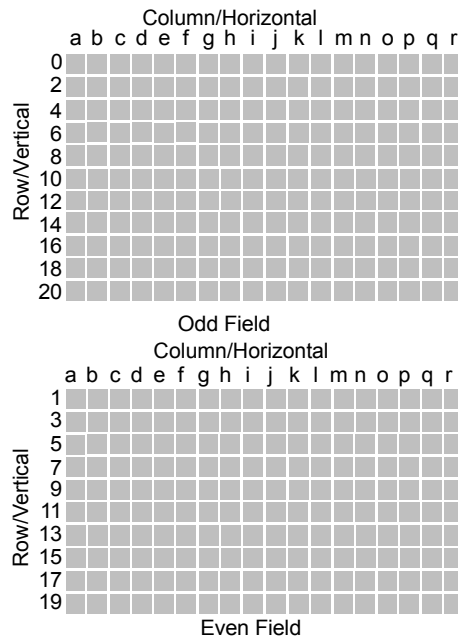

Figure 15. Interlace Read Out
Figure 15 shows a “*Scan Window*” of 21 rows and a “*Display Window*” of 21 rows and 18 columns. This is broken up into two fields:
- The odd field is read out first. The odd field will consist of pixels  $a_0, b_0, \dots, r_0$ ;  $a_1, b_1, \dots, r_1$ ; ... ;  $a_{17}, b_{17}, \dots, r_{17}$  as shown in figure 15.
- The even field is then read out. The even field will consist of pixels  $a_2, b_2, \dots, r_2$ ;  $a_3, b_3, \dots, r_3$ ; ... ;  $a_{19}, b_{19}, \dots, r_{19}$  as shown in figure 15.
Hence, for the example shown in Figure 15, the display window is broken up into two fields, as shown in Figure . Pixels  $a_0, b_0, \dots, r_0$  followed by  $a_2, b_2, \dots, r_2$  and so on until pixels  $a_{20}, b_{20}, \dots, r_{20}$  in the even field are read out first. The even field read out is followed by pixels in the odd field,  $a_1, b_1, \dots, r_1$  then  $a_3, b_3, \dots, r_3$  until pixels  $a_{19}, b_{19}, \dots, r_{19}$ .